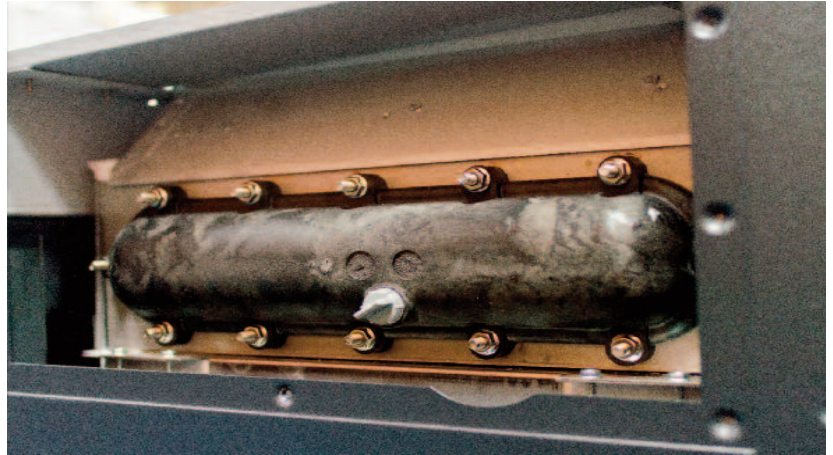

Fig. 2
9. Remove the twelve (12) 7/16" hex head nuts that secure the header. (See Fig. 2)
10. Remove the original rear (return) header. (See Fig. 2)